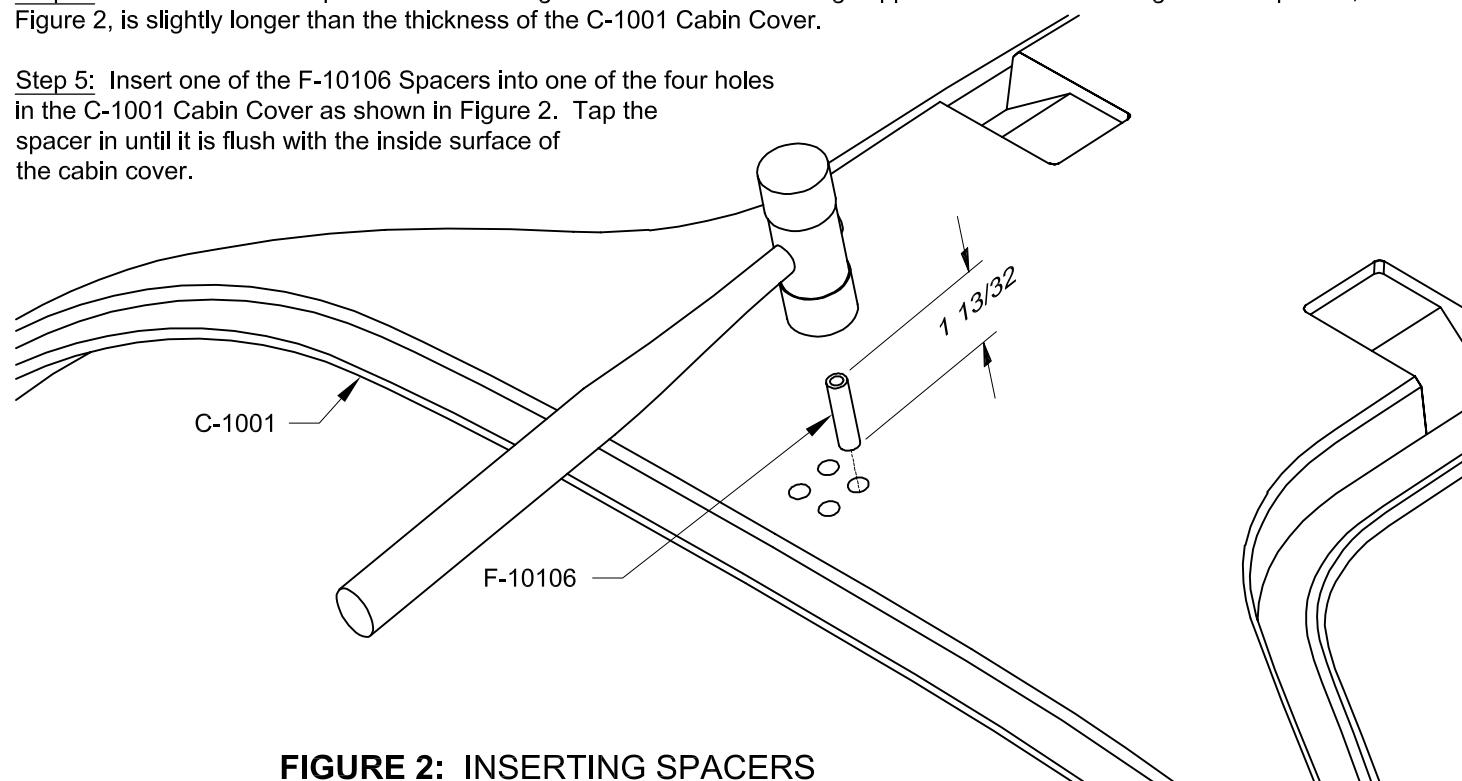

FIGURE 2: INSERTING SPACERS
Step 4: Cut four F-10106 Spacers from the length of AT6-058X5/16 tubing supplied in the kit. The length of the spacers, shown in Figure 2, is slightly longer than the thickness of the C-1001 Cabin Cover.
Step 5: Insert one of the F-10106 Spacers into one of the four holes in the C-1001 Cabin Cover as shown in Figure 2. Tap the spacer in until it is flush with the inside surface of the cabin cover.